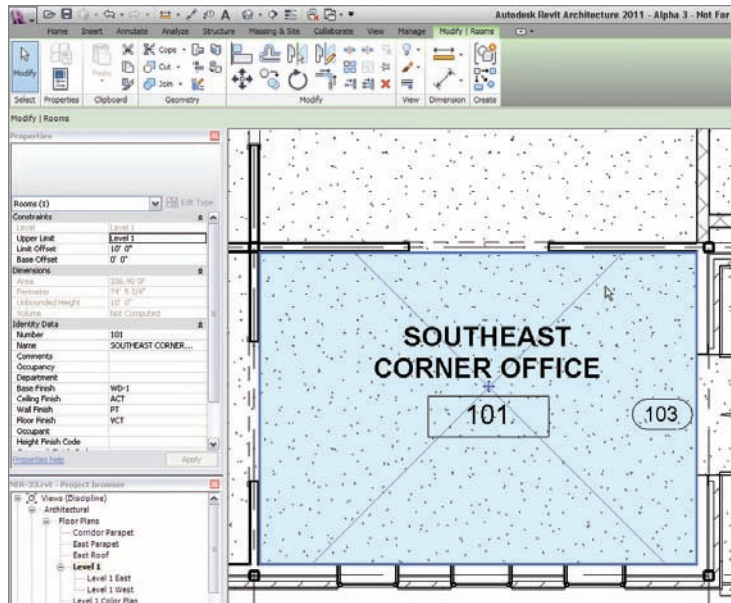

FIGURE 15.9 Hover the cursor over the room until the X appears.
2. Hover your cursor over the room until you see the X show up, as you can see in Figure 15.9.